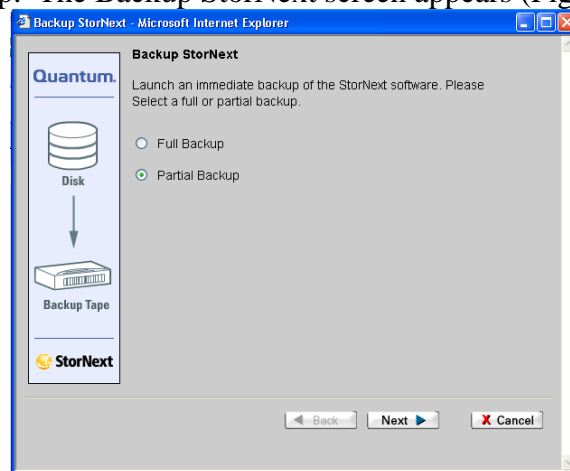

Figure 14.6-2. Backup StorNext Screen
- 3 Select Run Backup. The Backup StorNext screen appears (Figure 14.6-2).